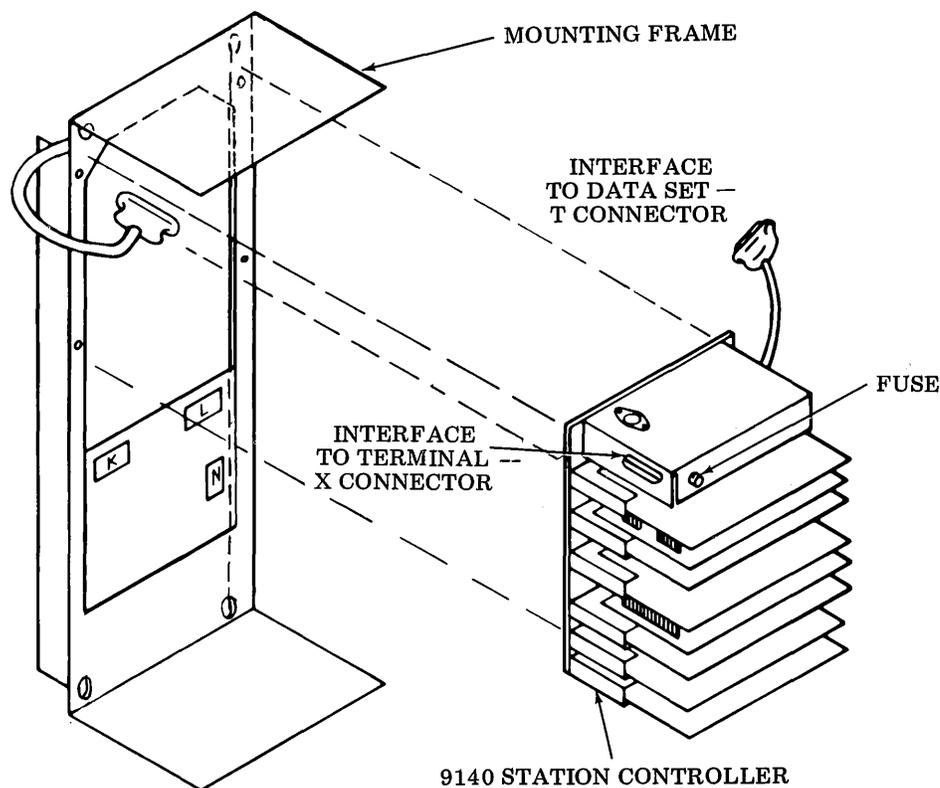

Figure 1 - Mounting Frame for 9140 Station Controller (33 and 35 Type Terminals)
2.02 The 9140 station controller should be completely programmed, tested and installed in its mounting frame (Figure 1) before
2.11 The 9140 station controller should be completely programmed, tested and installed in its mounting frame (Figure 1) before being shipped from the service center. In most cases, the mounting frame and station controller are also installed in the pedestal of the 35 type ASR set before shipping.
2.25 If the 35 type RO set is to be equipped with a 9140 station controller, it should be completely programmed, tested and installed in its mounting frame (Figure 1) before being shipped from the service center. In most cases, the mounting frame and station controller are also installed in the pedestal of the 35 type RO set before shipping.